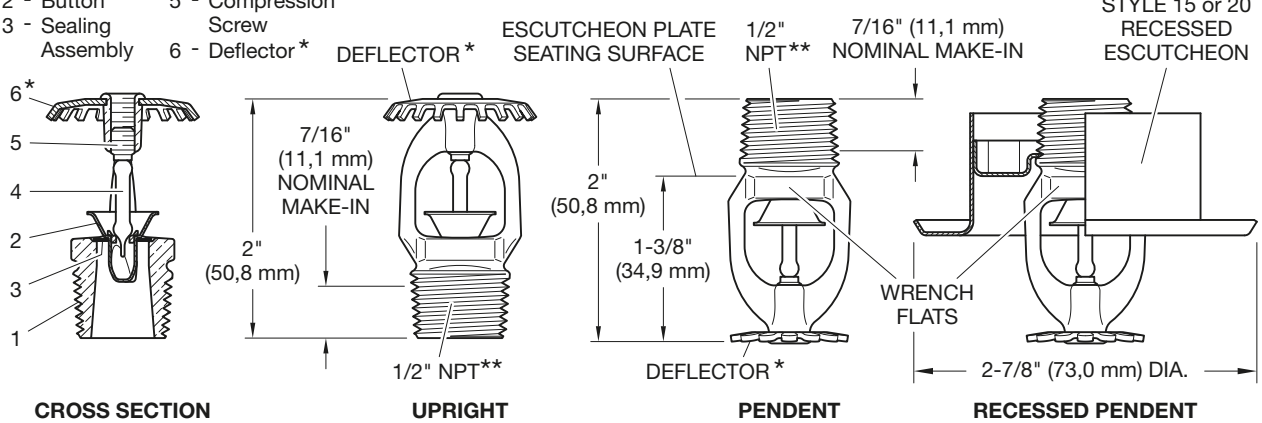
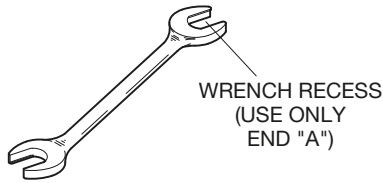
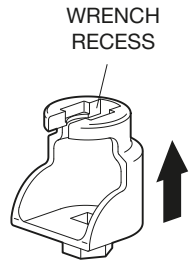

FIGURE 1
FIGURE 2
FIGURE 3
When properly installed, there is a nominal 3/32 in. (2.4 mm) air gap between the lip of the cover plate and the ceiling, as shown in Figure 2.
Step 3. Tighten the sprinkler into the sprinkler fitting using only the W-Type 6 Sprinkler Wrench as shown in Figure 2. Apply the W-Type 6 Sprinkler Wrench to the wrench flats as shown in Figure 1. Torque sprinklers 7 to 14 lb-ft (9,5 to 19,0 N·m).
Step B. Tighten the sprinkler into the sprinkler fitting using only the W-Type 7 Recessed Sprinkler Wrench as shown in Figure 3. Apply the W-Type 7 Recessed Sprinkler Wrench to the sprinkler wrench flats as shown in Figure 1. Torque sprinklers 7 to 14 lb-ft (9,5 to 19,0 N·m).